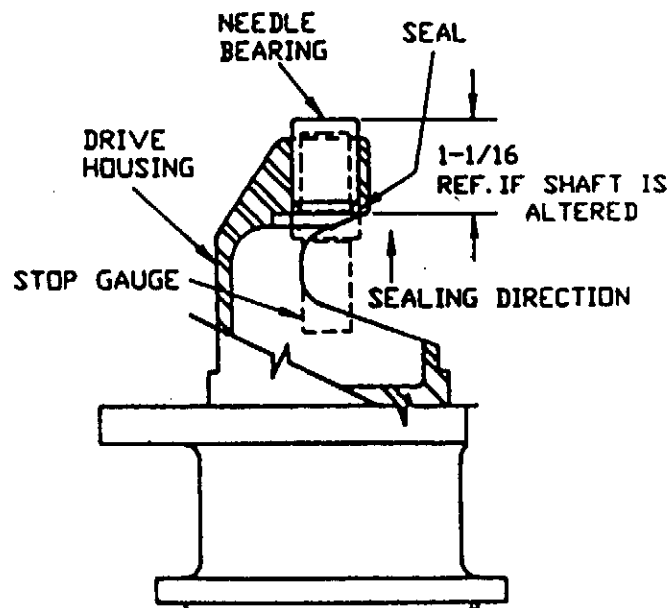

FIGURE 2
B. Insert stop gauge into drive housing bore as shown in Figure 2 with the long end of the gauge inside the bore and shoulder resting squarely against the face of the counterbore. Press bearing in from the outboard side until it hits the stop gauge.
B. Insert stop gauge into drive housing bore as shown in Figure 2. Make sure the short end of the gauge is inserted and the gauge shoulder rests squarely against the face of the counterbore. Press bearing in from the outboard side until it hits the stop gauge. The bearing end should be 1-1/16" from the face of the counterbore. If not, knock in or out with drift tool to 1-1/6" dimension.